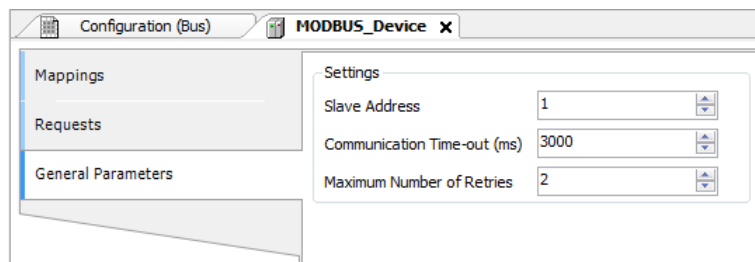

Figure 90: Device General Parameters Settings
- Add and configure devices via the General Parameters tab, defining the slave address, communication time-out and number of communication retries as can be seen in Figure 90.